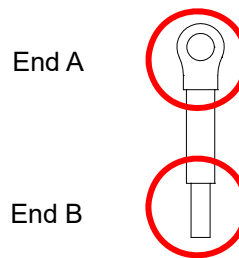

Figure 8-26
- You must ground the option cards as listed below when wiring. The ground terminal is included in the option card package, as shown in Figure 8-26.